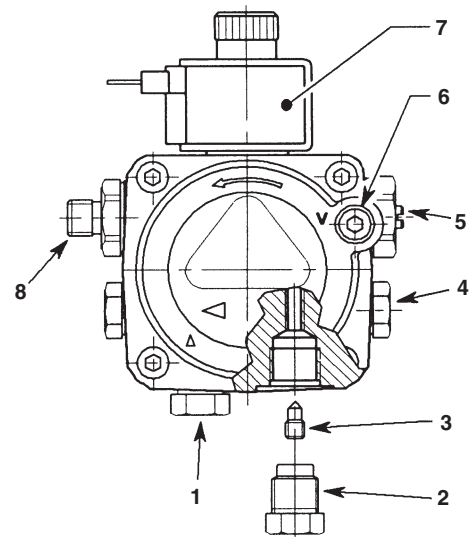

Fig. 7 - Riello RDB pump
Riello RDB burner - See Fig. 7
- 1 The fuel pump is supplied for use with a single pipe fuel supply system. For use on a two pipe system, it is necessary to fit the By-pass screw (see Fig. 7) into the tapping in the return port.
- 7 Flexible fuel lines and adaptors are available to purchase from Grant Engineering (UK) Ltd.